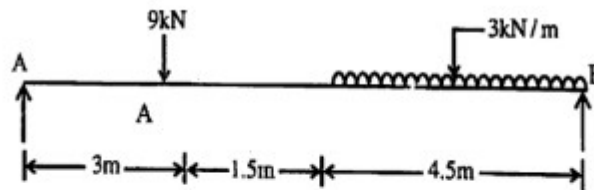

Fig.3
- Q.5 A beam AB of 9 m span is simply supported at the ends and is loaded as shown in fig. 3.